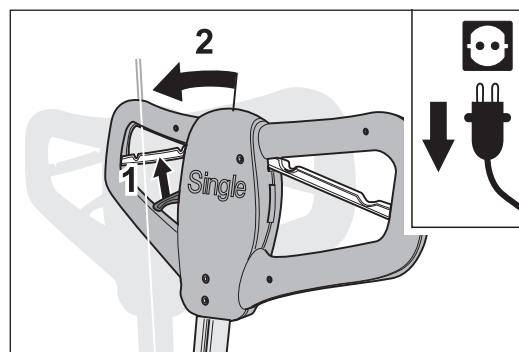
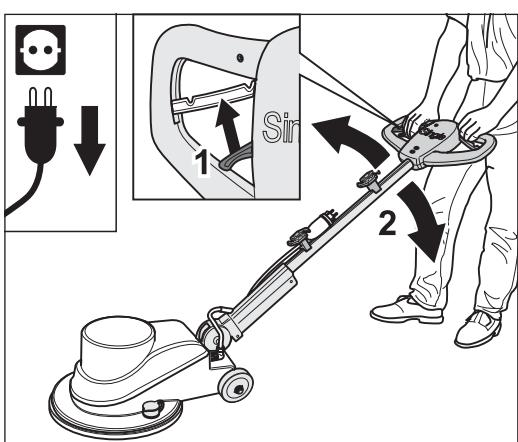

Fig. 3 Pull the adjusting lever to release the lock and raise the guide tube until it reaches the mechanical stop.
Fig. 7 Set the handle to a position that feels comfortable to you.
- 4 Pull the adjusting lever on the handle towards you to release the lock of the guide tube, and push the guide tube into and past the vertical position until it reaches the mechanical stop (Fig. 3).
- 8** The height of the guide tube can be adjusted, allowing you to work with the SINGLE as comfortably as possible. To make this adjustment, pull the adjusting lever towards you (Fig. 3). This releases the lock on the guide tube so that it can be moved up or down. Choose the position that feels most comfortable to you (Fig. 7) and release the adjusting lever again.